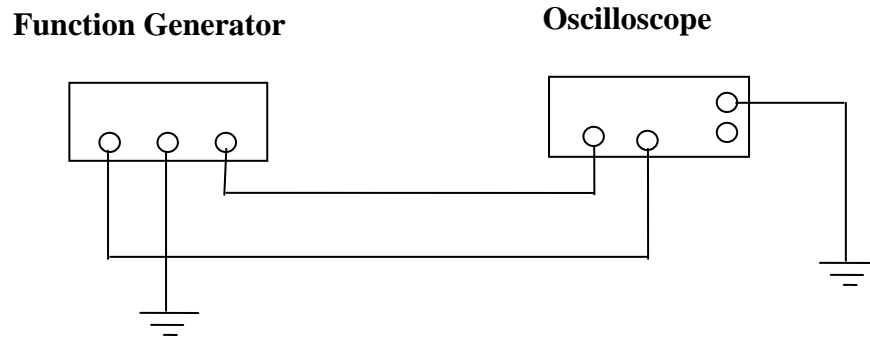

Fig. 1: The **Function Generator** and **Oscilloscope** connection
1. From the instrument panel pull down the **Function Generator** and **Oscilloscope** and connect them as shown in Fig. 1. You can select different colored wires by double clicking the line and choosing the colors. Select *Sine Wave* from the **Function Generator**. Set frequency to 1 kHz and amplitude to 10V. On the **Oscilloscope** start with the Time Base of 0.2ms/div and channel A, B settings of 5V/div.